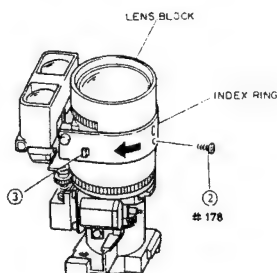
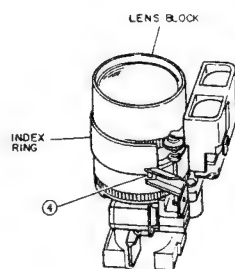

Fig. 2-106
Fig. 2-107
- 1) Set the zoom ring to the telephoto end and turn the focus ring to the infinity (∞) end. (See Fig. 2-106)
- 2) Remove one (1) screw holding the index ring.
- 3) Turn the index ring in the direction of the arrow to release one (1) tab.
- 4) Release one (1) tab holding the index ring. (See Fig. 2-107)